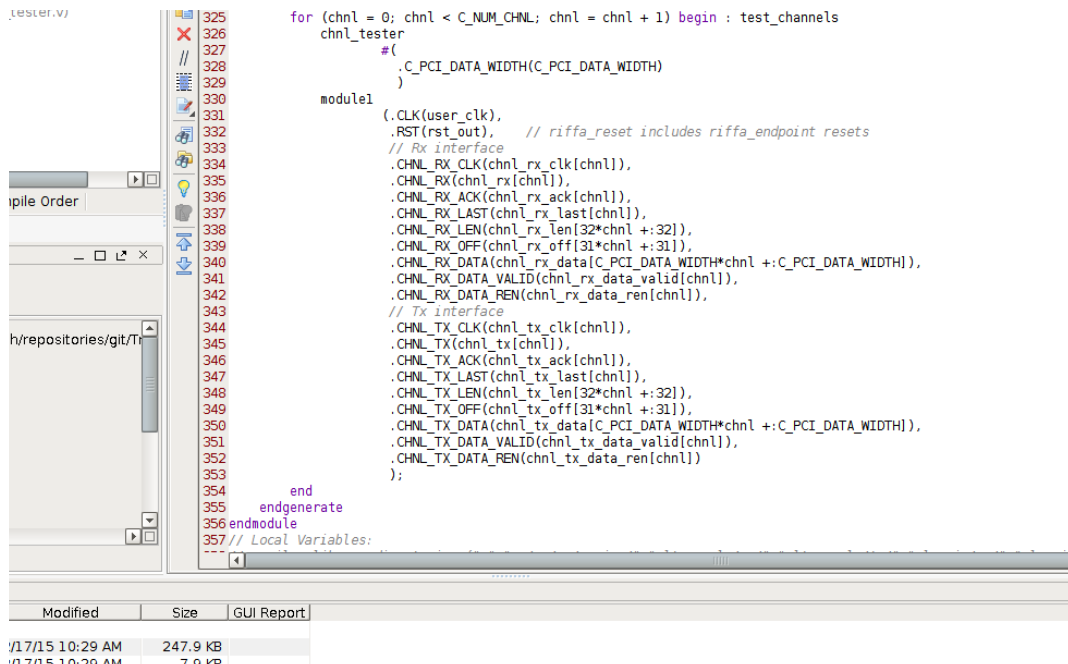

Figure 4.3: Project Splash Screen for 7Series Integrated Block for PCI Express Projects
6. The example design uses the `chnl_tester` (shown in Figure 4.3, which works with the example software in the `source/{C-C++,Java,python,matlab}` directories. Replace the `chnl_tester` instantiation with any user logic, matching the RIFFA interface.
6. The example design uses the *chnl_tester* (shown in Figure 4.3, which works with the example software in the *source/{C-C++,Java,python,matlab}* directories. Replace the *chnl_tester* instantiation with any user logic, matching the RIFFA interface.